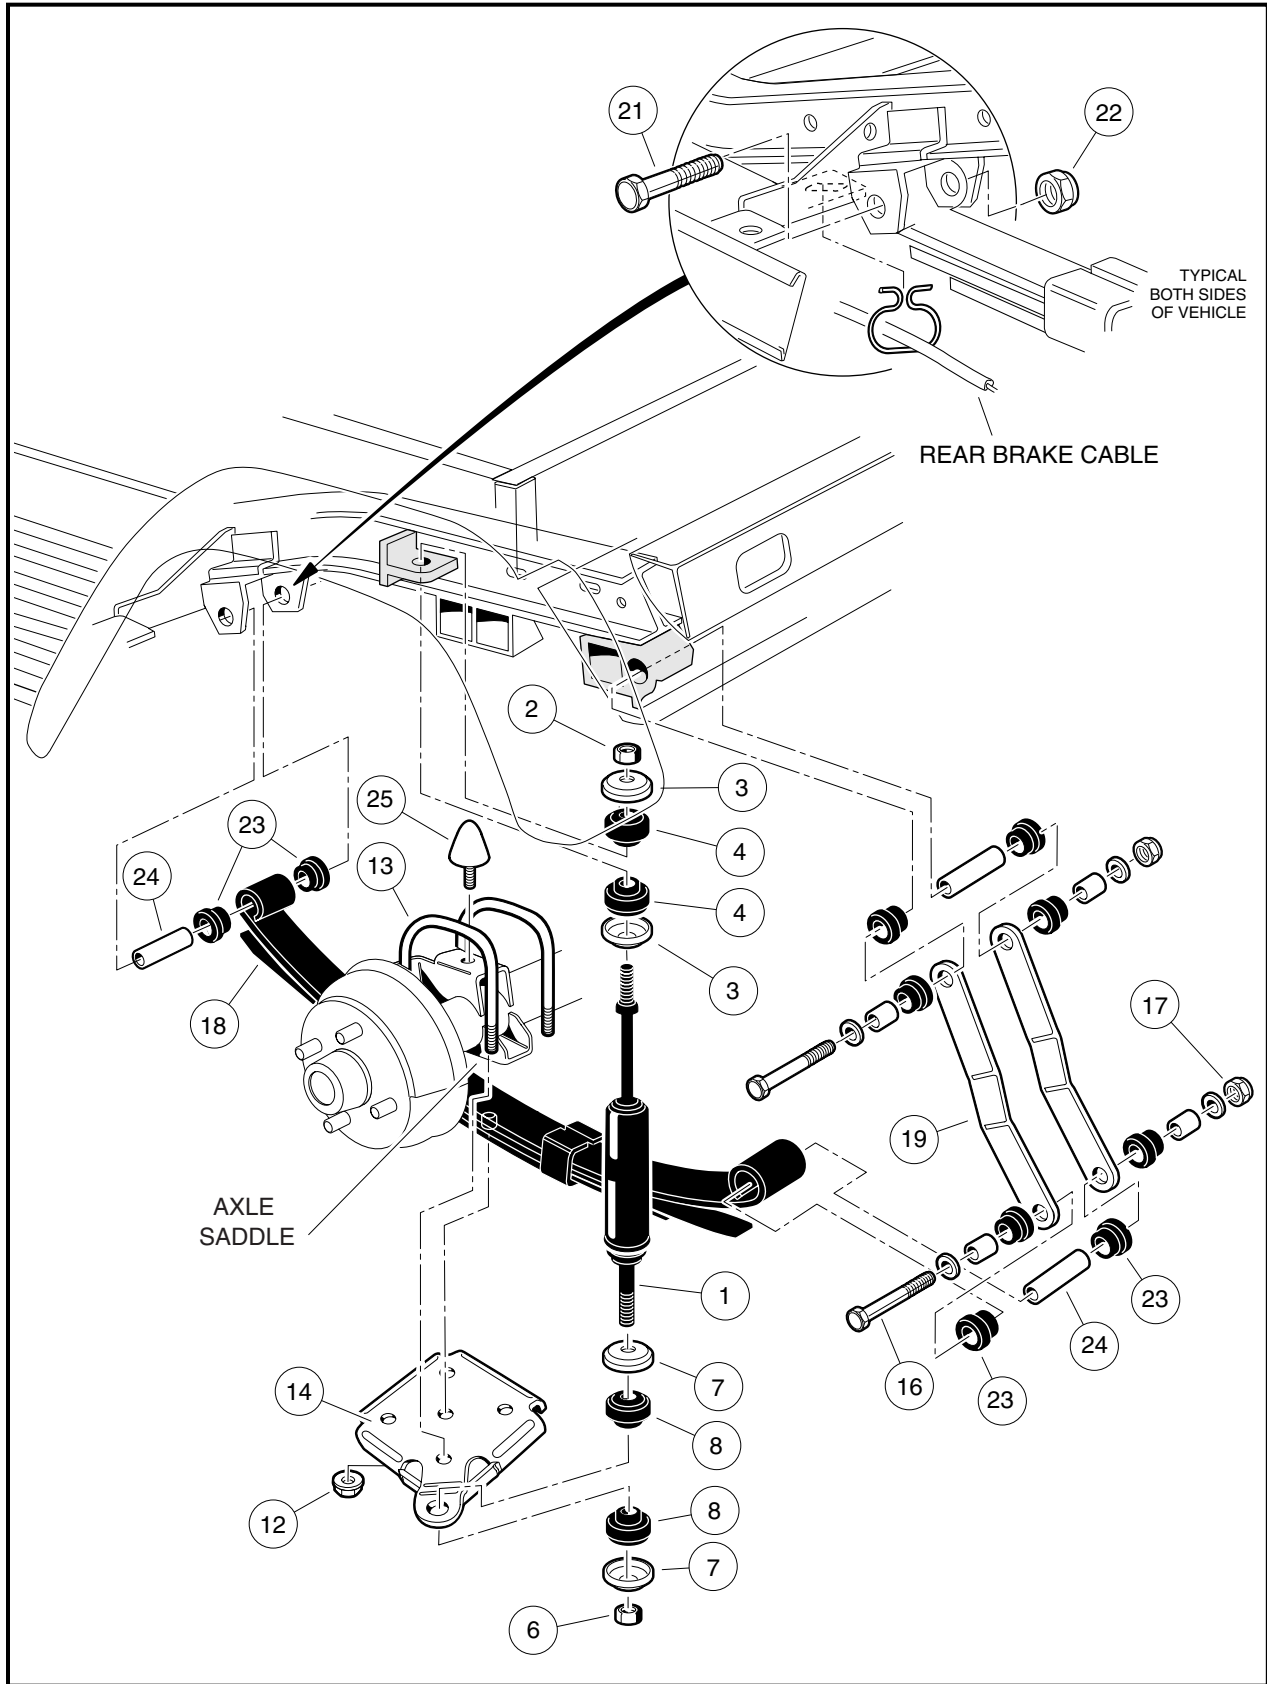

Figure 9-1 Rear Suspension for MC012C-AS00 Transaxle
1. Check shock absorbers (1) for damage or fluid leakage around the housing and replace if necessary (**Figure 9-1, Page 9-2**).
2. Remove the nut (2), cup washers (3) and rubber bushing (4) from the upper shock absorber stem.
2. Tighten nut (2) until rubber bushings (4) expand to the same diameter as the cup washers (3) (**Figure 9-1, Page 9-2**).
3. Install mounting hardware and tighten the nut (6) until the rubber bushings (8) expands to the same diameter as the cup washers (7).
7. Remove the lock nuts (12) attaching the U-bolts (13) to the shock mount bracket (14) (**Figure 9-1, Page 9-2**).
8. Remove bolt (16) and lock nut (17) attaching the leaf spring (18) to the rear shackles (19).
9. Allow rear of leaf spring (18) to rest on the ground and remove the bolt (21) and lock nut (22) attaching the front of the spring to the vehicle frame. Remove spring from vehicle.
10. Inspect the rubber bushings (23) and steel sleeves (24) in the spring eyes and replace them if they are worn or damaged.
1. Install rubber bushings (23) and steel sleeves (24) into leaf spring eyes (**Figure 9-1, Page 9-2**).
2. Place front of leaf spring (18) into front mounts and insert grade-eight bolt (21) through mount and leaf spring eye. Attach lock nut (22) and tighten to 15 ft-lb (20.3 N·m). See following **CAUTION**.
3. Align opposite end of leaf spring with spring shackles (19). Insert bolt (16) through shackles and leaf spring eye. Attach lock nut (17) and tighten to 15 ft-lb (20.3 N·m). Lower transaxle onto leaf spring (18) (**Figure 9-1, Page 9-2**). See following **CAUTION**.
- When placing transaxle on spring, be sure to position locating bolt on the spring in the center locating hole in the axle saddle (**Figure 9-1, Page 9-2**).
4. Install shock mount bracket (14) onto locating bolt of leaf-spring.
5. Install U-bolts (13) and lock nuts (12) and tighten lock nuts in a crisscross pattern to 35 ft-lb (47.5 N·m).